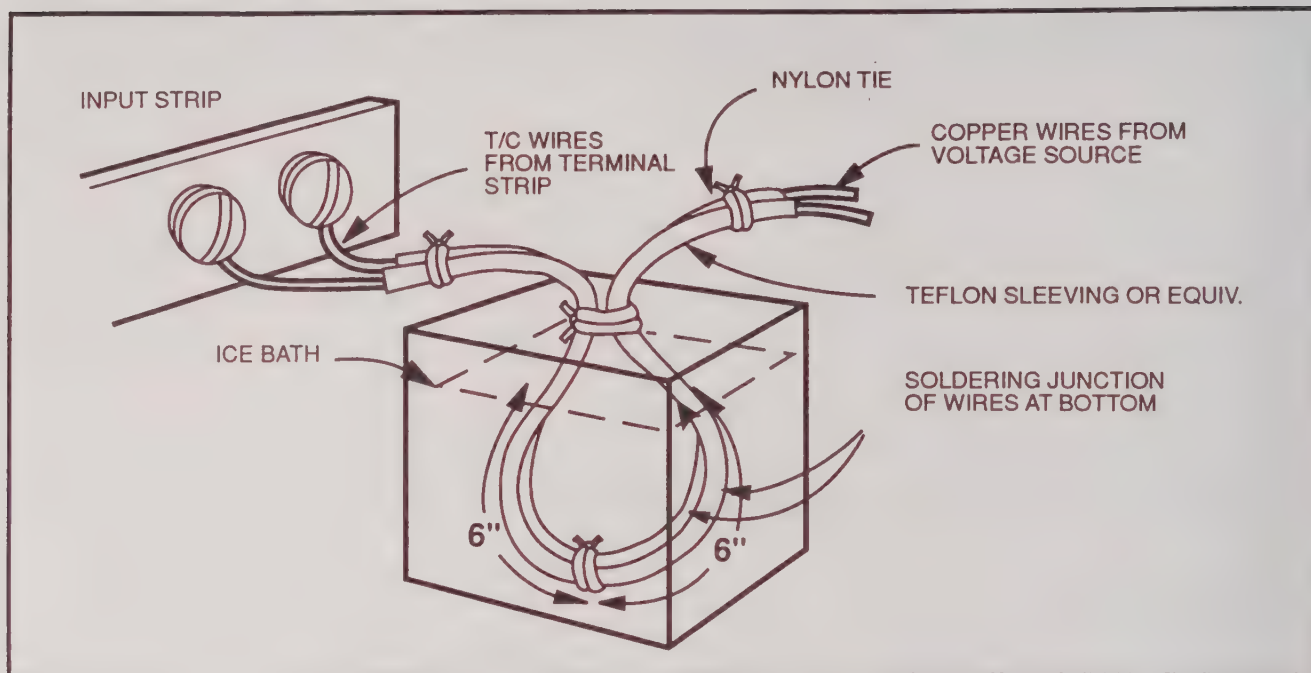

Figure 7. Preparing Wires for Ice Bath
- Connect the DC calibrator and ice bath to the instrument as shown in the setup diagram in Figure 7.